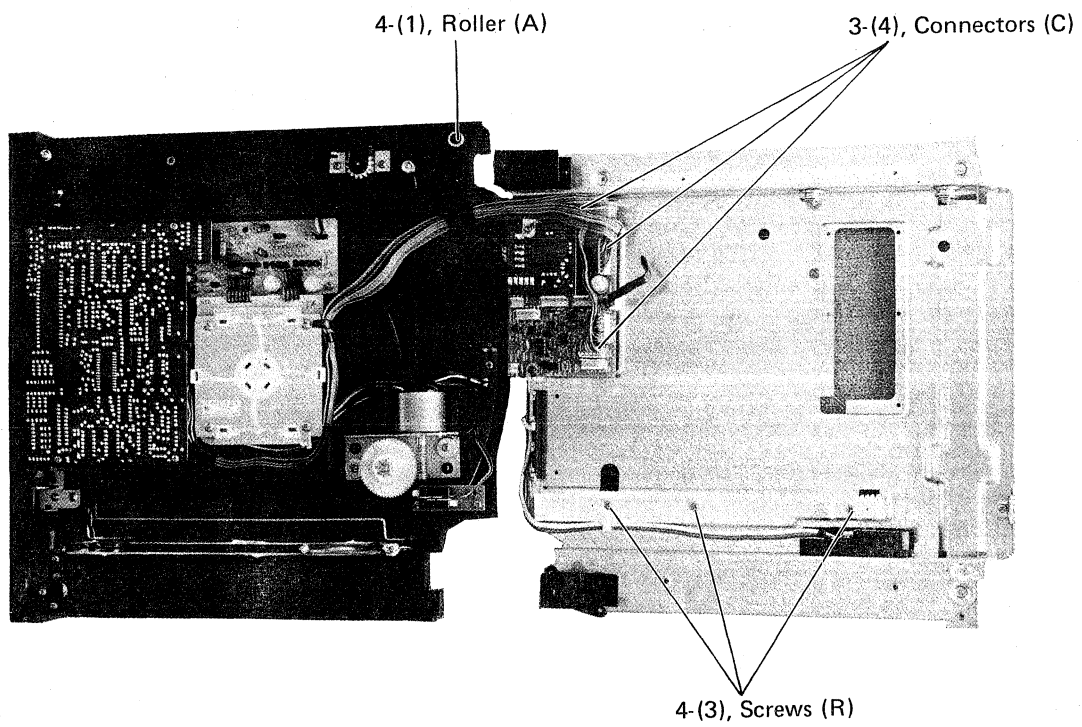

Fig. 8
- (1) Dismount of stopper plate. (See fig. 8, 10)
- 1. Remove 2 pcs. of screws (Q) from bottom plate and clear the crest (A) provided with switch holder.
- 3. Remove 3 pcs. of screws (R) from rack (A) so that mechanism portion of power switch is removed. (See fig. 8, 11)